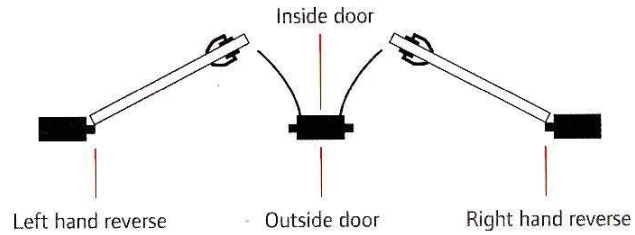

Fig.2
- ▶ 2-1 As illustrated in Fig. 2, check the direction of door-opening.